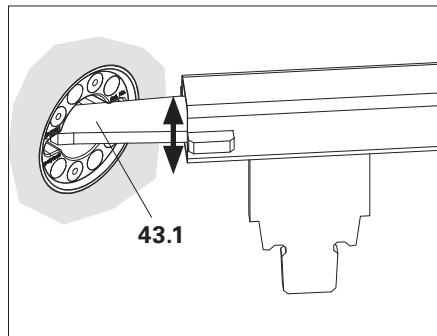

Fig. D1.04a
2. Insert pointed side of wrench (43.1) into the guide groove of the Magnet Cone from the right, and clean the slot. (Fig. D1.04a)